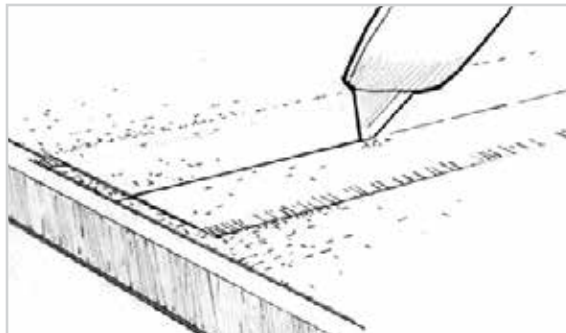

Figure 8-20 Trim overlapping fabric using a metal straightedge and a sharp utility knife, for a flush butt joint.
- b) Cut through both layers of cloth with a sharp utility knife (Figure 8-20).